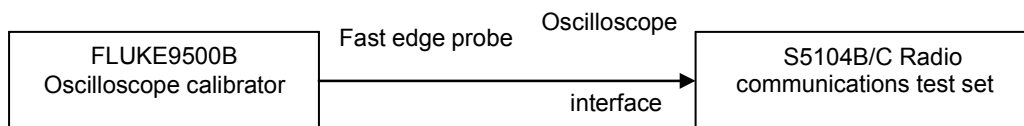

Fig. 6-16 Oscilloscope input characteristics test
1) As shown in Fig. 6-16, connect the oscilloscope calibrator with the oscilloscope input 1 interface of S5104B/C with a fast edge probe; set S5104B/C to the oscilloscope mode and the oscilloscope channel 1 to on;
3) As shown in Fig. 6-16, connect the oscilloscope calibrator with the oscilloscope input 2 interface of S5104B/C with a fast edge probe; set S5104B/C to the oscilloscope mode and the oscilloscope channel 2 to on; repeat step 2);